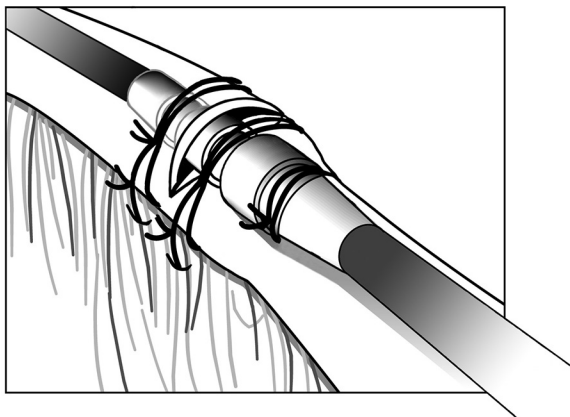

Figure 13. Example of suture sleeve, venous cutdown technique
3. Using the same groove, secure the lead and vein to the adjacent fascia (Figure 13 Example of suture sleeve, venous cutdown technique on page 26).